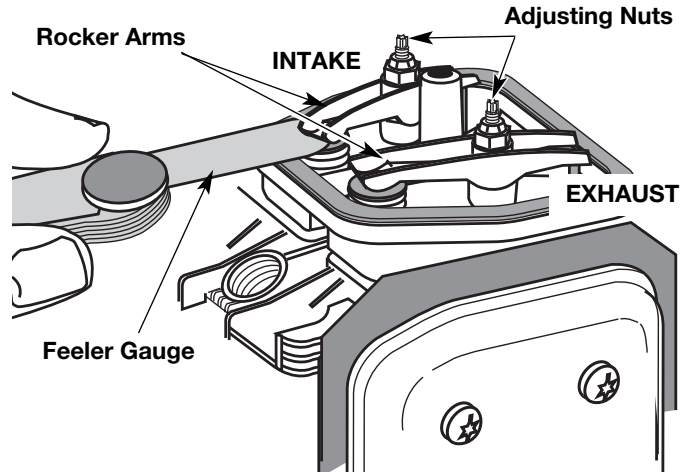

Fig. 71
- Slide the feeler gauge between the rocker arm and the valve return spring. Measure the clearance between the valve stem and rocker arm (Fig. 71). Measure both the intake and exhaust valves.
The recommended clearance for both intake and exhaust is .003 – .006 in. (.076 – 0.152 mm). Use a standard automotive .005 in. (0.127 mm) feeler gauge. The feeler gauge should slide between the rocker arm and valve stem with a slight amount of resistance, without binding. See Figure 71 and 72.